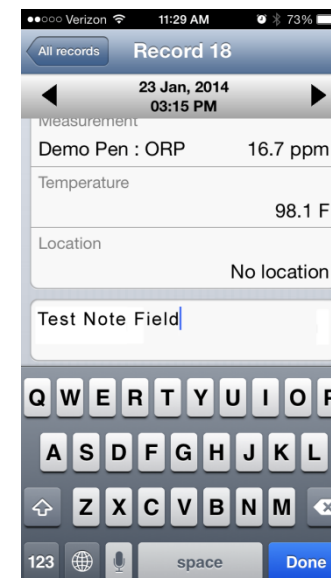

Figure 24
- A cursor will appear in the Notes field and a keypad will appear (see Figure 24).